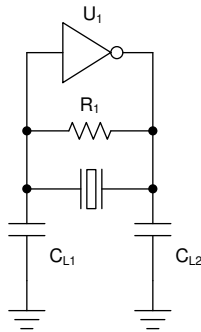

Figure 6-2. Pierce-Type Oscillator
Both crystal oscillators are pierce type oscillators are shown in Figure 6-2. In this type of oscillator, the crystal and the load capacitors form a pi-filter providing a 180° phase shift to the internal amplifier keeping the oscillator locked at the specified frequency. For this frequency to be correct, the load capacitance must be dimensioned properly based on the crystal's capacitive load (CL) parameter.